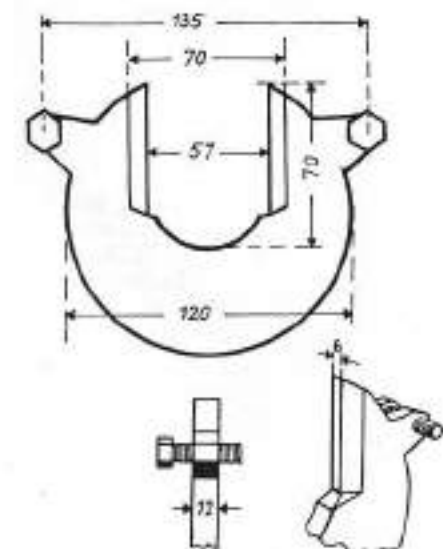

Fig. 11—A holding clamp can be fabricated locally to prevent axle movement during assembly. Dimensions are in millimeters.
**NOTE:** Care should be taken after axle is installed to prevent damage to oil seal (14-Fig. 8) by movement of axle shaft during subsequent assembly. Use of a clamp, shown in Fig. 11, is recommended by the manufacturer and clamp is installed between carrier and universal joint. Clamp must be fabricated locally and note that dimensions are in millimeters.
With thickness of spacer determined proceed as follows: Apply sealant to mating surfaces of housing (26-Fig. 7) and carrier (18), then position final drive shaft housing on bench with wheel studs down. Lower carrier and axle shaft assembly onto final drive shaft housing and be sure that axle shaft and final drive shaft enter their bearings (use hoist if necessary). Axle shaft is a push fit in the outboard bearing and can be seated in the bearing using a hammer and suitable drift. Install the carrier to housing cap screws and tighten securely. If clamp (Fig. 11) was used, remove clamp and